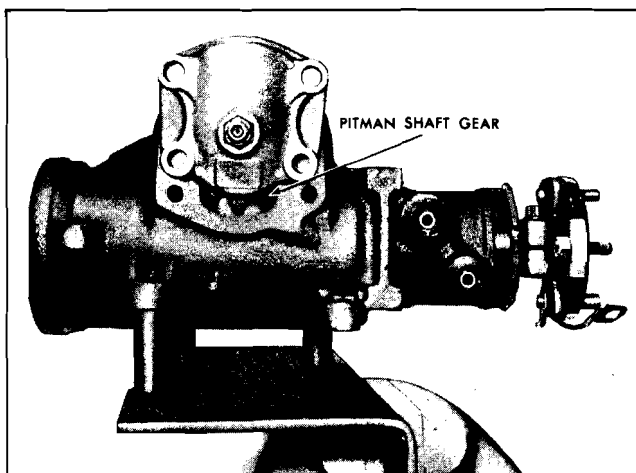

Fig. 9-58 Position of Pitman Shaft Gear for Removal
2. Rotate cover as necessary to see when pitman shaft is centered in gear housing opening while rotating gear coupling (Fig. 9-58).